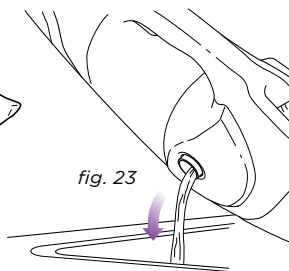

fig. 23
- 4 Empty the water tank before storage. Remove the water tank cap and empty the tank over a sink. Replace the water cap. (**fig. 23**)